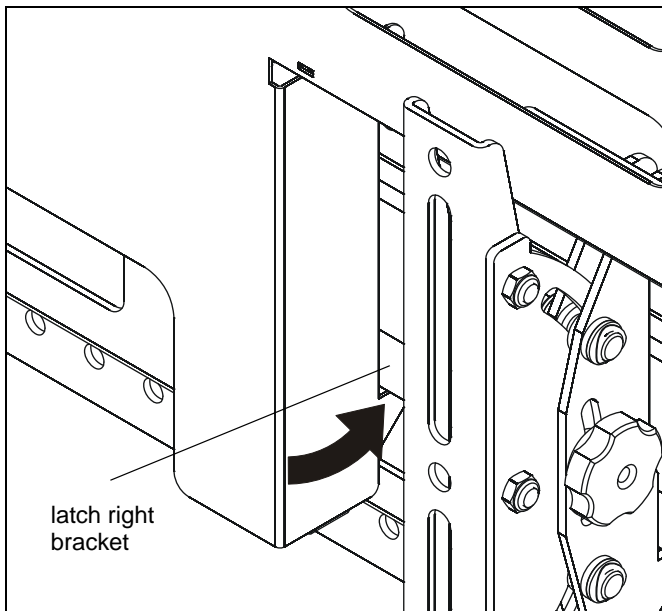

Figure 2
3. Slide lower hooks of CPU adapter underneath latch right bracket on RMT mount. (See Figure 2)